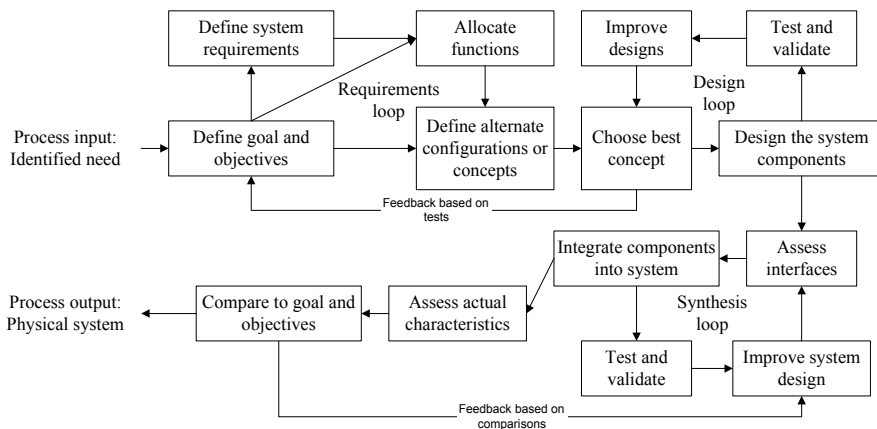

Figure 19. System Engineering Process
- A system engineering process has the following steps as shown in Figure 19: